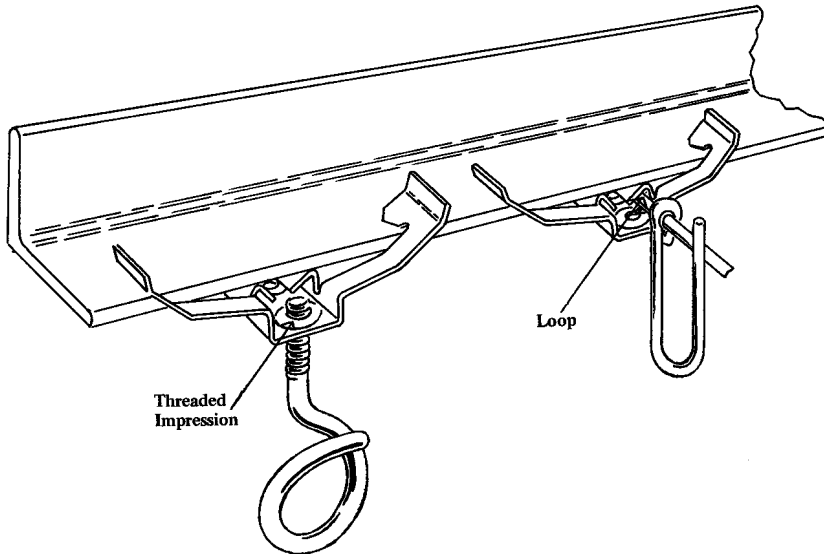

FIGURE 2
- 2.02 The clip may be attached to structural beam flanges ranging in thickness from  $1/8''$  to  $3/8''$ , to wire from 12 through 8 gauge and to suspension rods ranging in diameter from  $3/16''$  through  $3/8''$ ; see Figures 2 and 3.
- 2.03 Bridle rings or drive rings may be fitted to the loops located at the center of the assembly, Figure 2, or the loops may accommodate a No. 8 sheet metal screw.
- 2.04 Two threaded depressions are provided on one side of the clip. One of the depressions accepts a 10-24 machine thread and the other a 1/4-20 machine thread. See Figure 2.